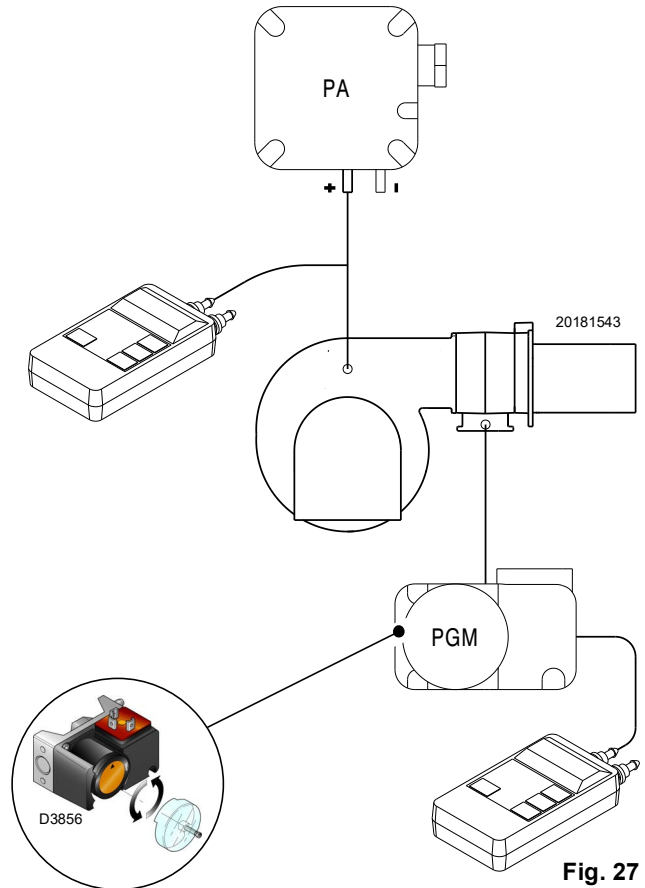

Fig. 27
- Adjust the maximum gas pressure switch (Fig. 27 on page 28) to the end of the scale.
Adjust the maximum gas pressure switch (Fig. 27) after making all other burner adjustments with the maximum gas pressure switch set to the end of the scale.